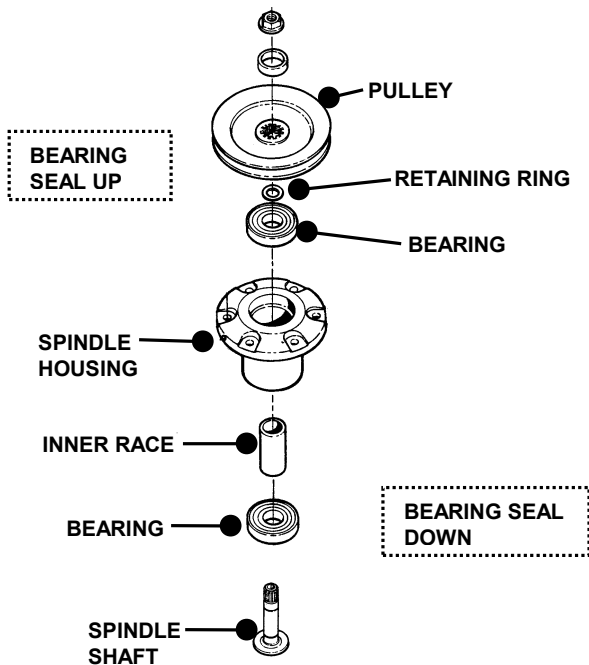

FIGURE 5.12
4. Top and bottom bearings are now removable. Pull out on inner race to slide bearing from housing. See Figure 5.12.